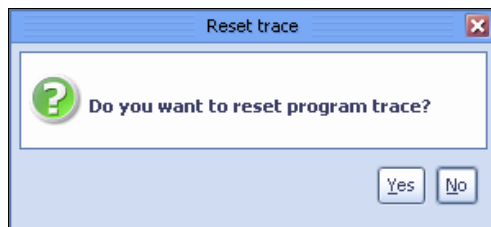

Figure 10-107 Reset program trace confirmation window
2. Select **Node** → **Reset trace**. A confirmation message box opens (Figure 10-107).